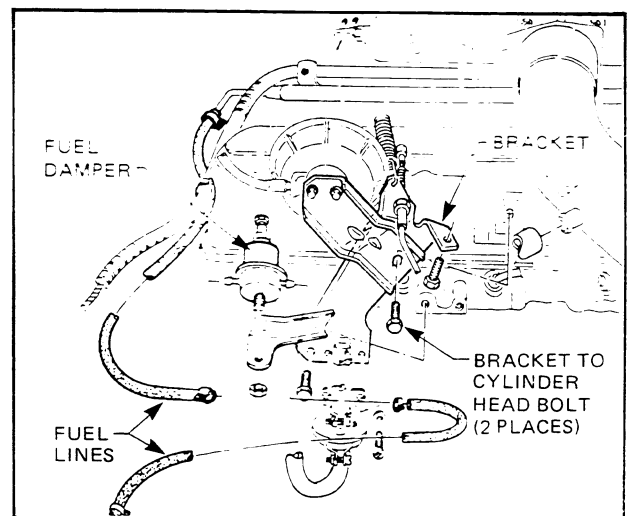

Figure 6A-27
21. Remove wiring connectors from fuel injectors, throttle position switch, coolant temperature sensor. Refer Fig. 6A-28. To avoid damage, do not pull on wires at the connectors.